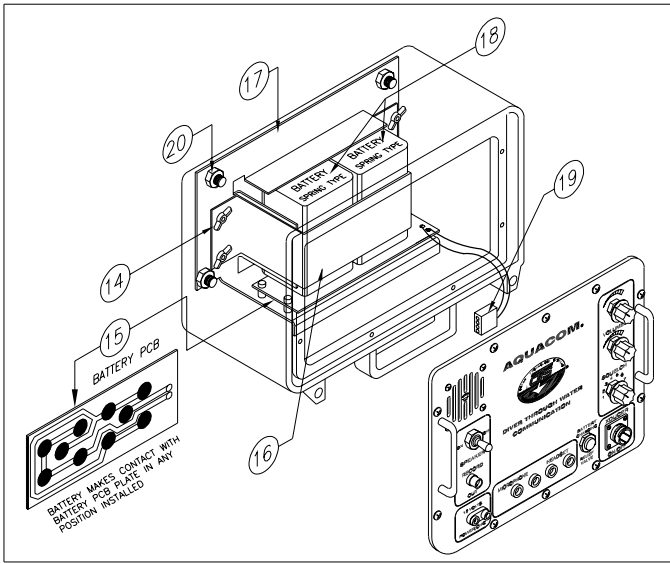
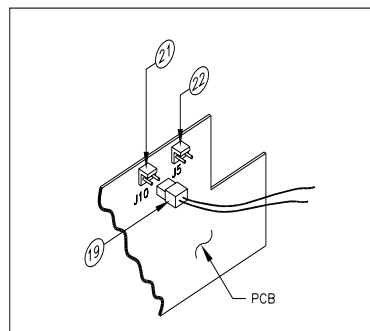

Figure 2
Figure 3
3. Remove the wing nuts (Figure 2, #14) and set aside.
4. Remove the battery retaining bracket (Figure 2, #16) and set aside.
5. Insert two lantern batteries, battery springs facing toward the battery PC board (Figure 2, #15). Ensure they are firmly seated in the bottom of the battery bracket housing.
7. Ensure the wire harness is plugged into the correct connector on the PC board (Figure 3). When *alkaline* batteries are used, the harness (Figure 3, #19) must be plugged into receptacle J10 (Figure 3, #21). When *rechargeable* batteries are used, the harness must be plugged into J5 (Figure 3, #22). **If this procedure is not followed properly, damage may occur.** If you are trying to charge batteries with the
8. While the unit is open, you may want to verify that the four screws securing the feet and the battery plate assembly are tightly secured (Figure 2, #20).
**Important Note:** The silver pads located on the battery PC board (Figure 2, item #15) are configured to accept the spring contacts found on a 6-volt, spring-type lantern battery at any axis at which the 6-volt lantern batteries are installed. The spring contacts of the batteries must be in contact with the PC board in order for the system to work. Installing the batteries in the wrong direction
When utilizing the optional RB-6V sealed lead-acid battery, you will attain the maximum performance of self-contained batteries (two are required). The STX-101M and STX-101SB come standard with two RB-6V batteries. Install the batteries per the instructions found in Section 2.2. When using or charging the RB-6V batteries, ensure the power harness in the battery compartment (Figure 2, #19) is connected to J5 (Figure 3, #22) on the circuit board. This channels the charger's current to the batteries.
- Verify before charging the batteries that they are RB-6V rechargeable batteries, the vent is open, and the internal plug is connected to the proper connector (Figure 1, #7 and Figure 3, #22).